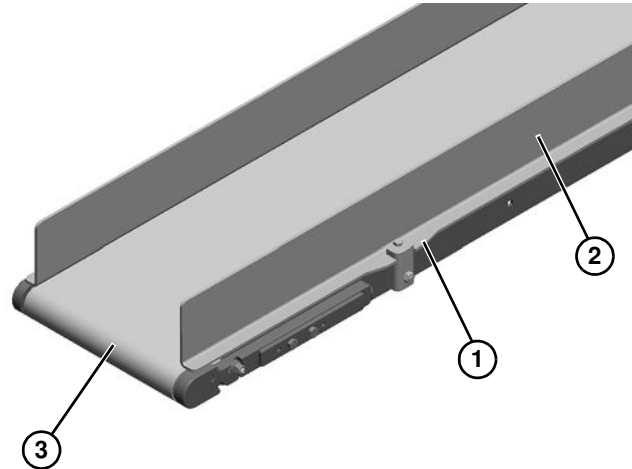

Figure 40
The guide location notch (Figure 40, item 1) on the high sides (Figure 40, item 2) must be positioned at the infeed end of the conveyor (Figure 40, item 3).